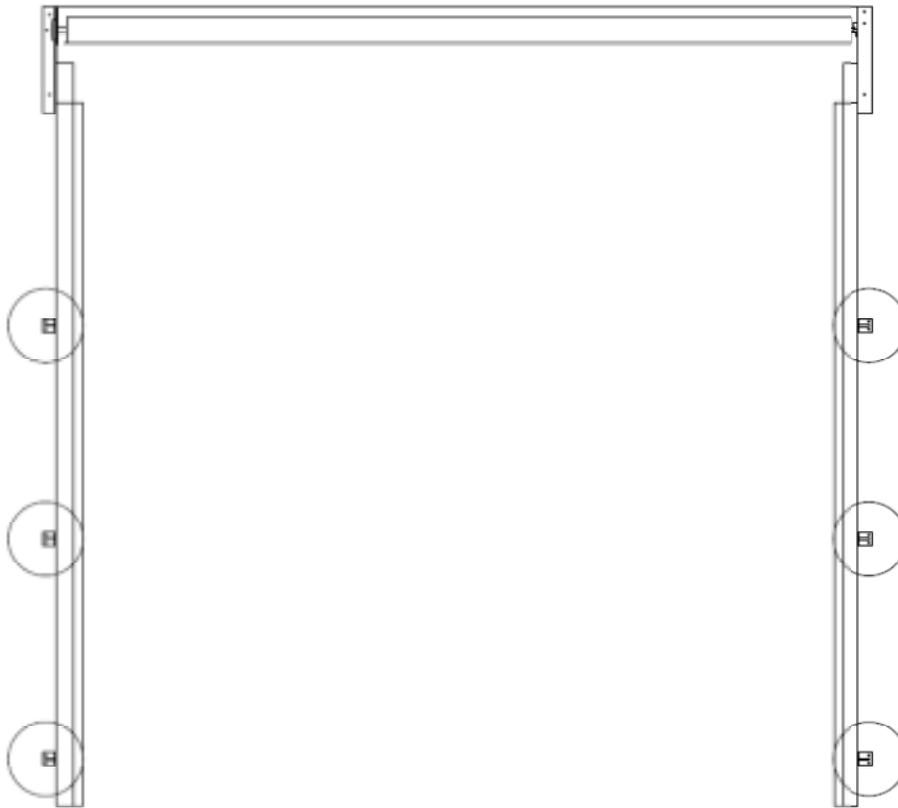

FIGURE 1
1. When installing the tracks, only secure the bottom three brackets on each side of the track for now. (See FIG 1.)